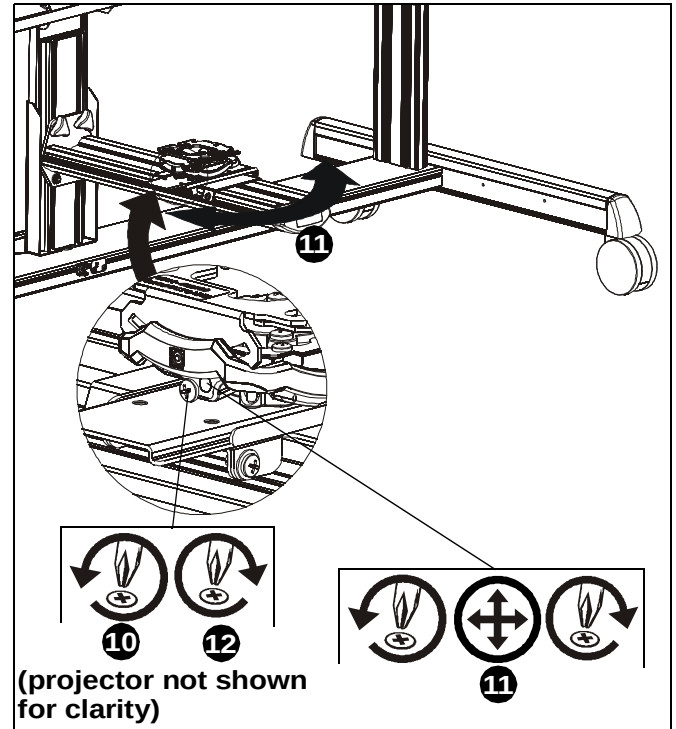

Figure 18
10. Loosen Yaw adjustment locking screw. (See Figure 18)
11. Turn Yaw micro-adjustment screw right or left until image is properly aligned on screen. (See Figure 18)
12. Tighten Yaw adjustment locking screw. (See Figure 18)